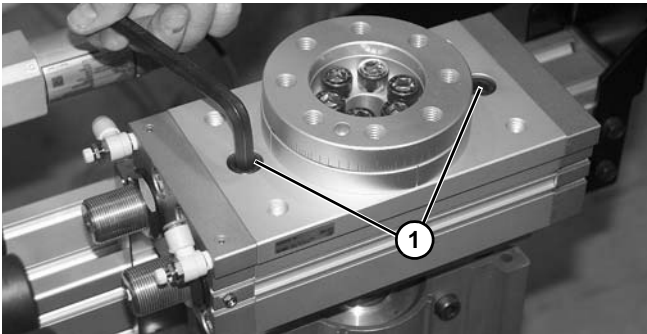

Figure 107
11. Remove two socket head screws (**Figure 107, item 1**) from the top of rotate cylinder.